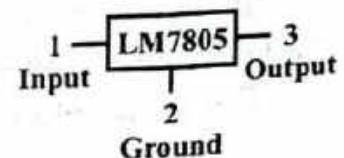

Fig. 5.81 IC 7805 Pin Diagram
Ans. Voltage sources in a circuit may have fluctuations resulting in not providing fixed voltage outputs. A voltage regulator IC maintains the output voltage at a constant value. 7805 IC, a member of 78XX series of fixed linear voltage regulators used to maintain such fluctuations, is a popular voltage regulator integrated circuit (IC). The XX in 78XX indicates the output voltage it provides. 7805 IC provides +5 volts regulated power supply with provisions to add a heat sink. The pin diagram of IC 7805 is shown in fig. 5.81.